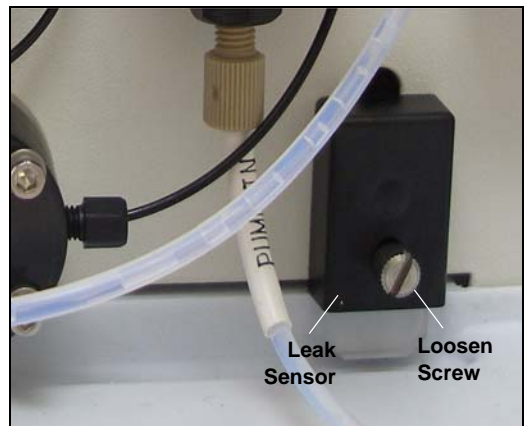

Figure 5-29. Leak Sensor
3. Loosen the screw on the front of the leak sensor (see Figure 5-29). **Note:** The screw remains attached to the sensor.